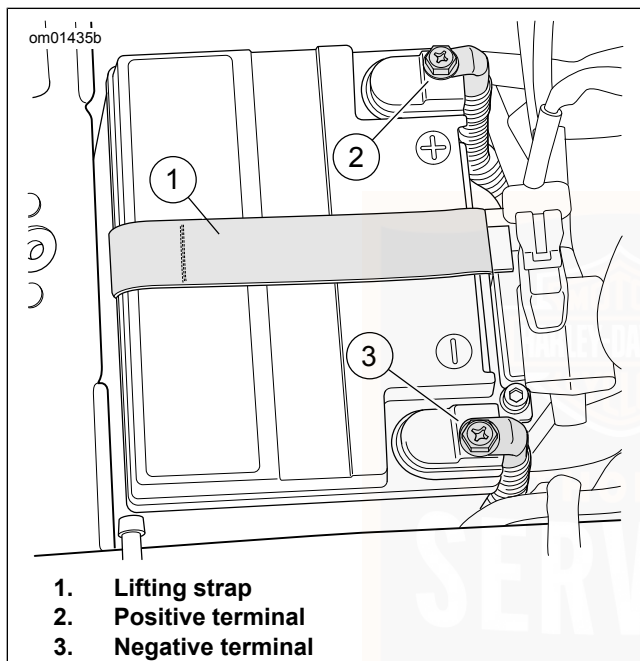

Figure 87. Battery Compartment
10. See Figure 87. Disconnect both battery cables, negative battery cable first.
3. See Figure 87. Place the battery into the battery tray, terminal side forward.